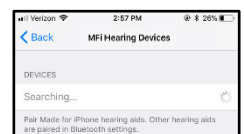

Figure 40
3. Ensure Bluetooth is enabled. The Apple device will start searching for the hearing aids (Figure 40).